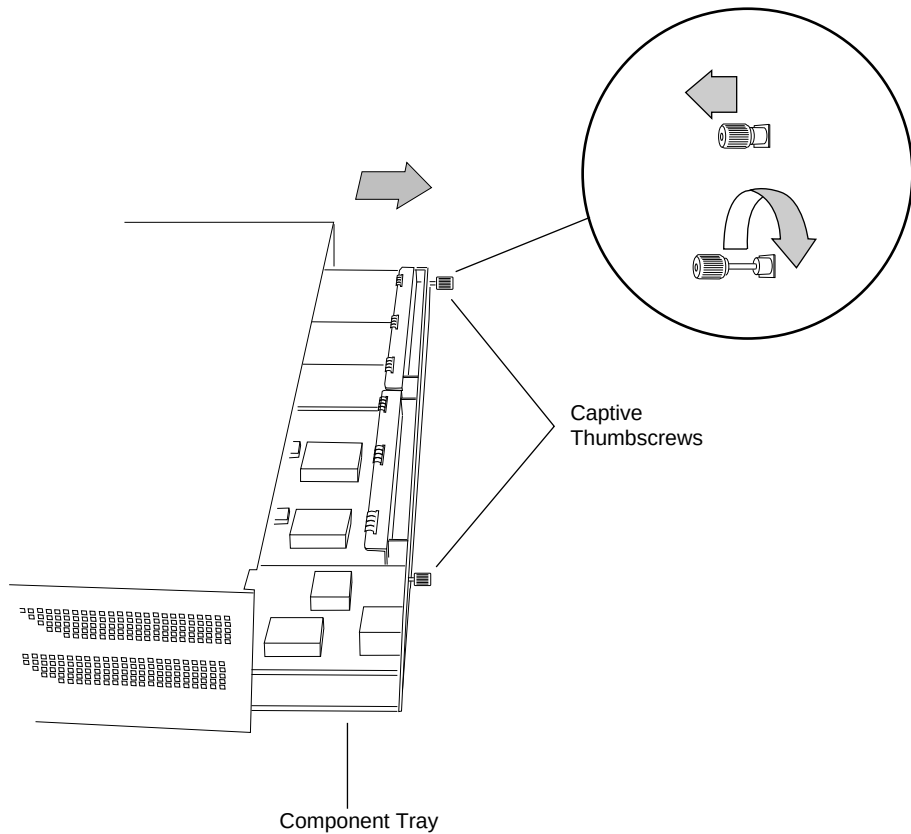

Figure 1-2. Accessing the Component Tray
4. Pull the back panel out of the AN enclosure (Figure 1-2) until the component tray is accessible.